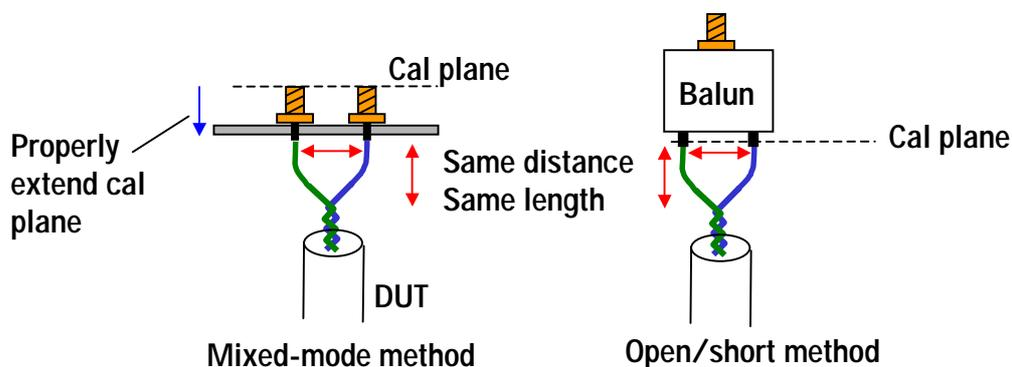

Figure 6. Tips for correlating Zc measurement data
- In the mixed-mode method, it is necessary to properly extend the calibration plane with port extension (or fixture de-embedding) as shown in Figure 6. Otherwise the Zc trace may incorrectly increase at high frequencies.
- In each method, the distance and length of unbraided wires must be the same as those of the other method, as shown in Figure 6.